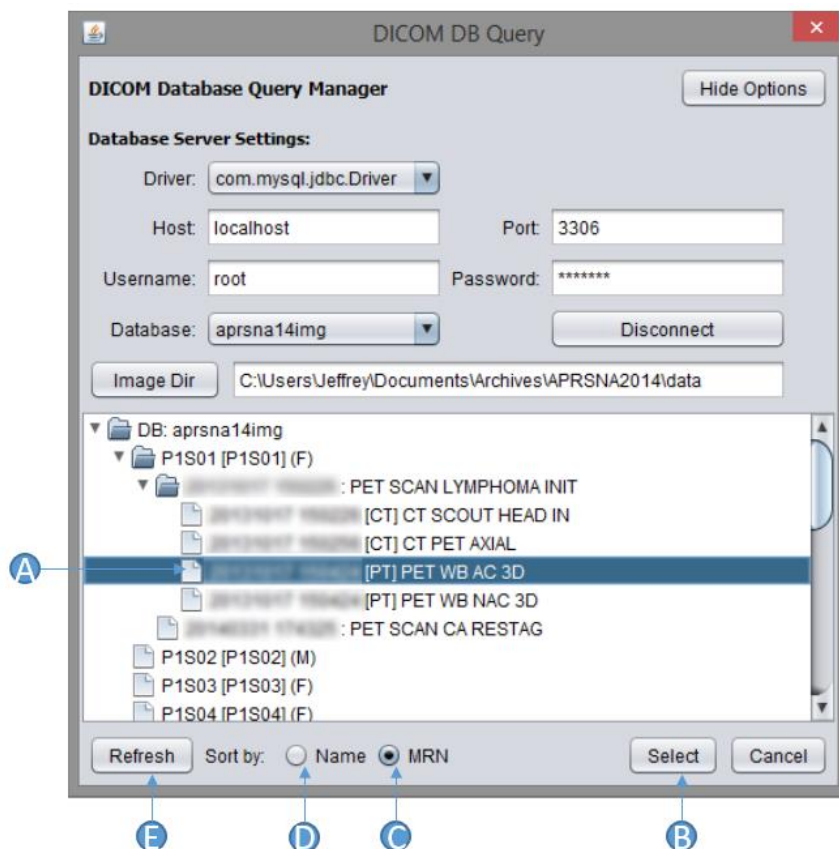

Figure 5-30 Auto-PERCIST™ DICOM DB Query Dialog
The DICOM DB Query Dialog (Figure 5-30) allows you to quickly locate the study series you wish to load by navigating the data presented in a Tree diagram (A) organized in the following hierarchy: Patient Name → Study → Series. The data can be sorted at the root level by either Medical Record Number (MRN) (C) or by the patient's last name (D). The DICOM archive will store all valid DICOM data, though at this time *Auto-PERCIST™* can only load PET modality data. This is evidenced by the fact that the **Select** button only becomes available for selection when you select a valid PET dataset. Once a valid data set is selected, the user can proceed with loading the data by either double-clicking the entry (A) or pressing the **Select** button (B).